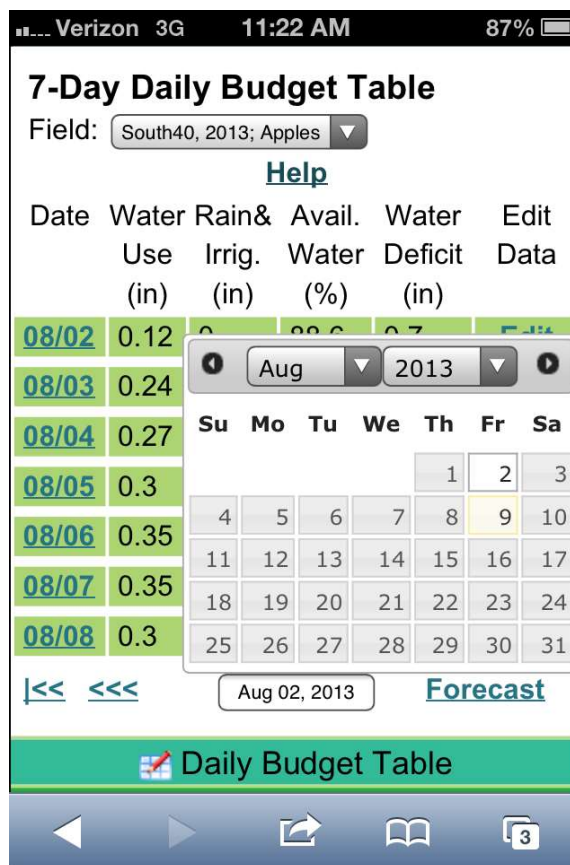

Figure 10. Choose first date of week to view.
**Navigation:** You can navigate to other dates in the growing season using the buttons at the bottom of the table. The date button in the middle is used to go to the week starting with the chosen date (Figure 10). Note that you cannot navigate outside of the growing season as defined by the crop's planting date and end-of-season or harvest date as defined in Field Settings. The << and >> buttons takes you to the beginning of the growing season and to today (or to the growing season) respectively. The <<< and >>> buttons navigation you forward or backwards respectively in time by one week.